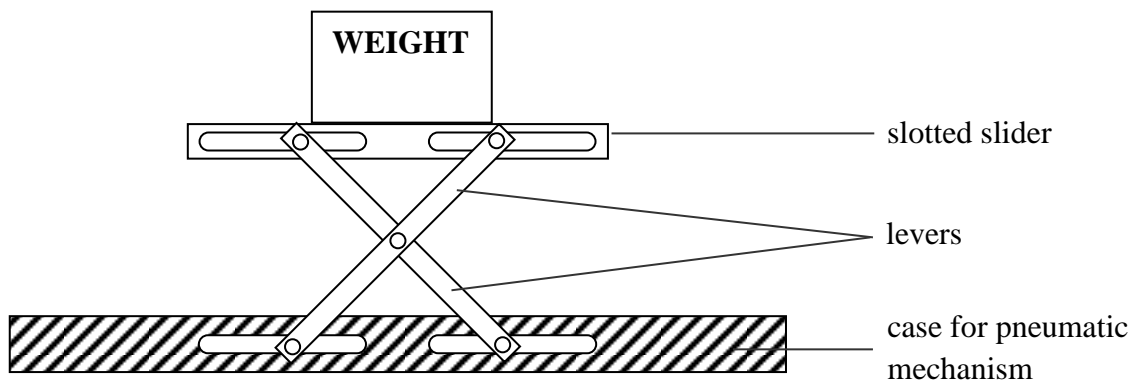

Figure 3: Pneumatic Lift
Figure 3 shows a schematic diagram of a lift which works by using both a pneumatic system and levers.
- a) The lift makes use of two first class levers. On **Figure 3** label the **PIVOT** of the lever mechanism. Using arrows also label the direction of the **EFFORT** and **LOAD** when the lift rises.